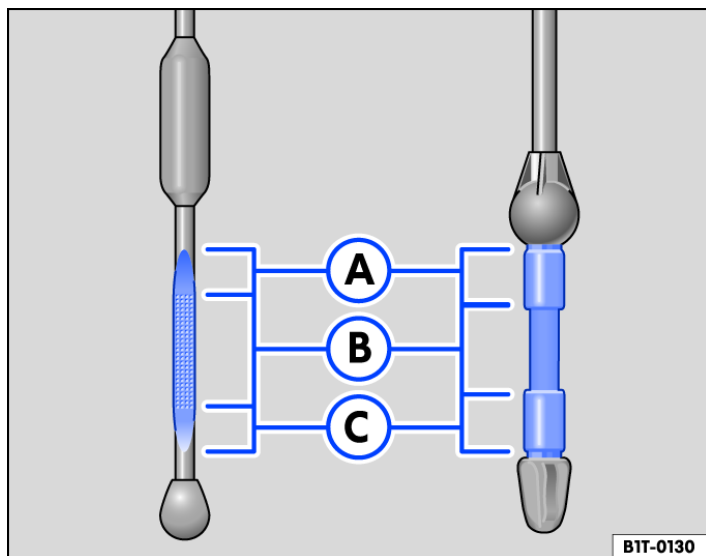

Fig. 1 Oil dipsticks with markings (variants).
7. Pull out the oil dipstick again and read the engine oil level on the dipstick as follows → *Fig. 1*:
13. After filling, the engine oil level should be in the middle of the area → *Fig. 1* **B**. It should not be above **B**, i.e. in area **A**, nor should it be above area **A** → *Checking the engine oil level and refilling engine oil*.
14. Do not start the engine if you have added an excessive amount of engine oil by accident and the engine oil level is thus above area → *Fig. 1* **A**. Notify a qualified workshop and seek expert assistance if necessary.